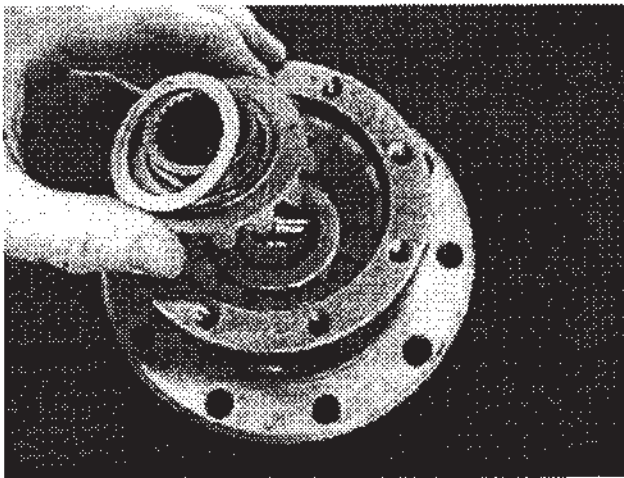

Figure 12
8. Place the other side gear (the one that formerly was in the bottom of the case) onto the top driver with the teeth meshed and then place the second thrust washer on it (Figure 12). The smoothest side of the washer is placed next to the gear.